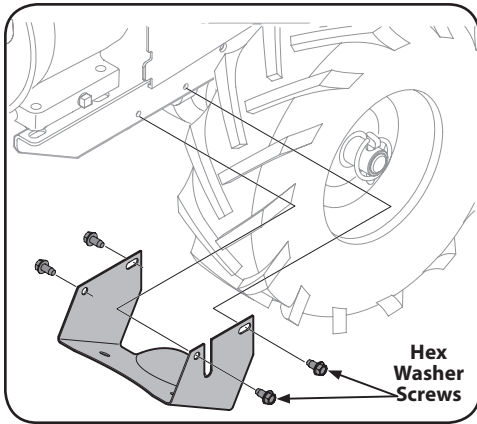

Figure 5-4
3. Remove the four hex washer screws that secure the pulley shield to the frame as seen in Figure 5-4. Remove the pulley shield and set aside in a safe location until reinstallation.